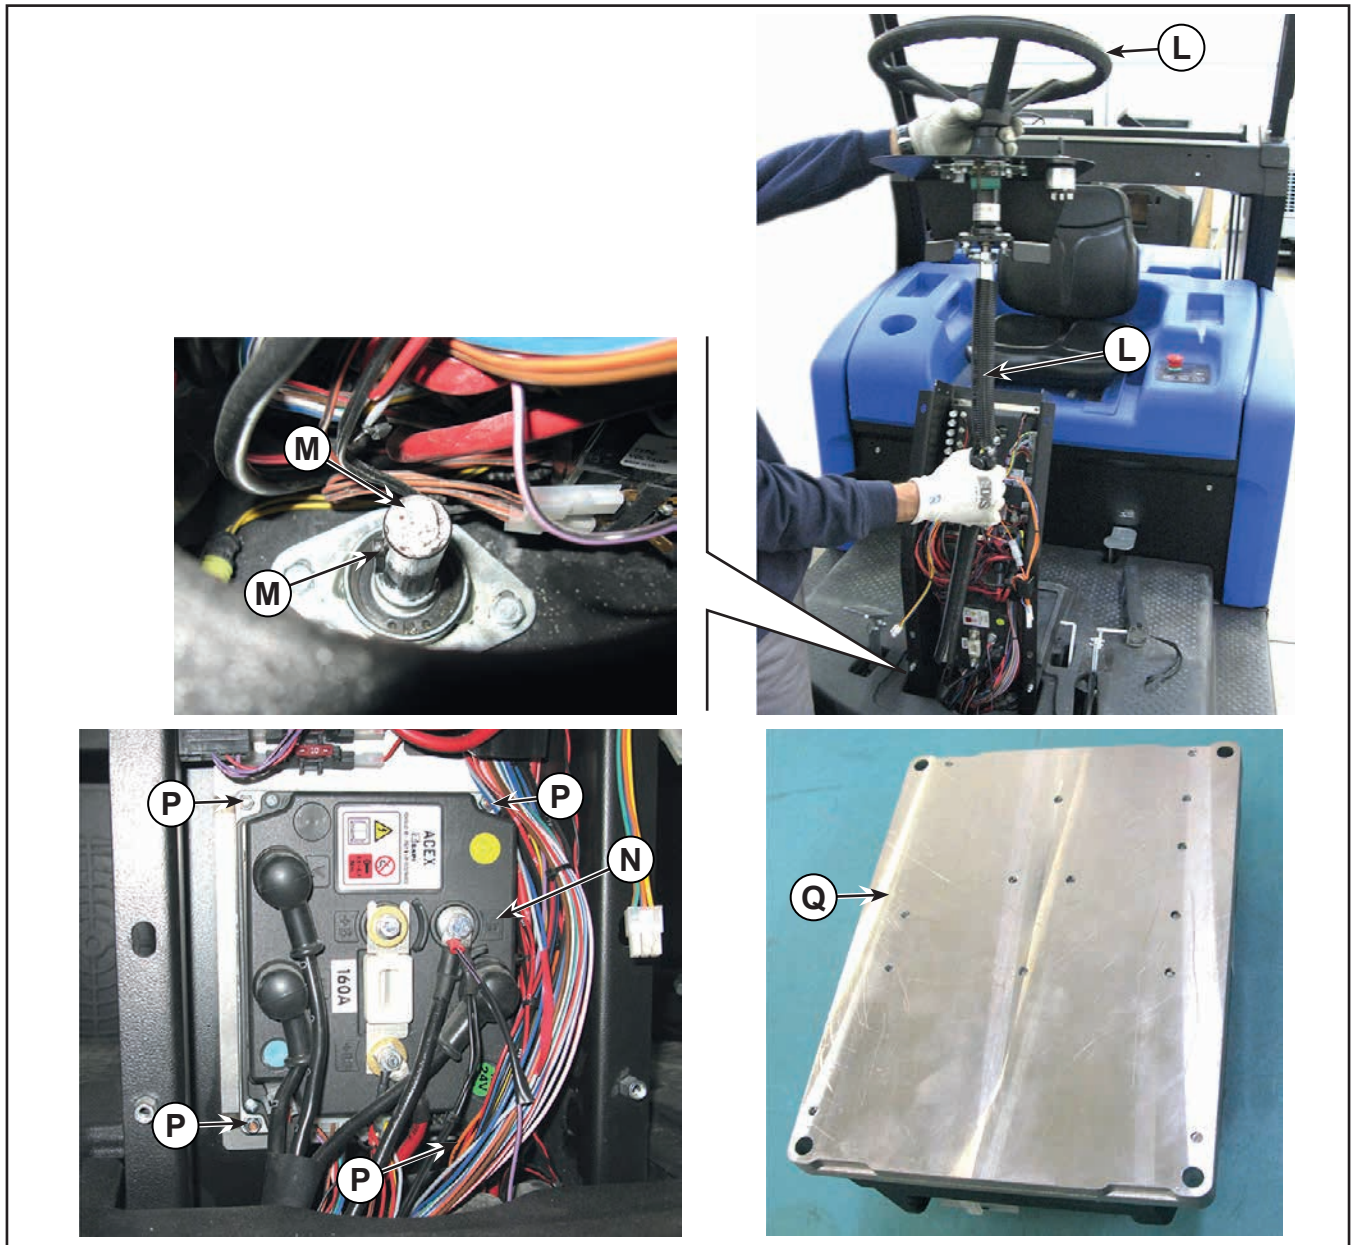

Figure 14
12. Remove the steering wheel with steering shafts assembly (L, Figure 14), gripping it as shown in the figure, and disengaging it from the shaft with key (M).
13. Disconnect all the electrical connections from the Drive Wheel Controller (N) after marking their various positions.
14. Unscrew the four nuts (P) and remove the Drive Wheel Controller (N).